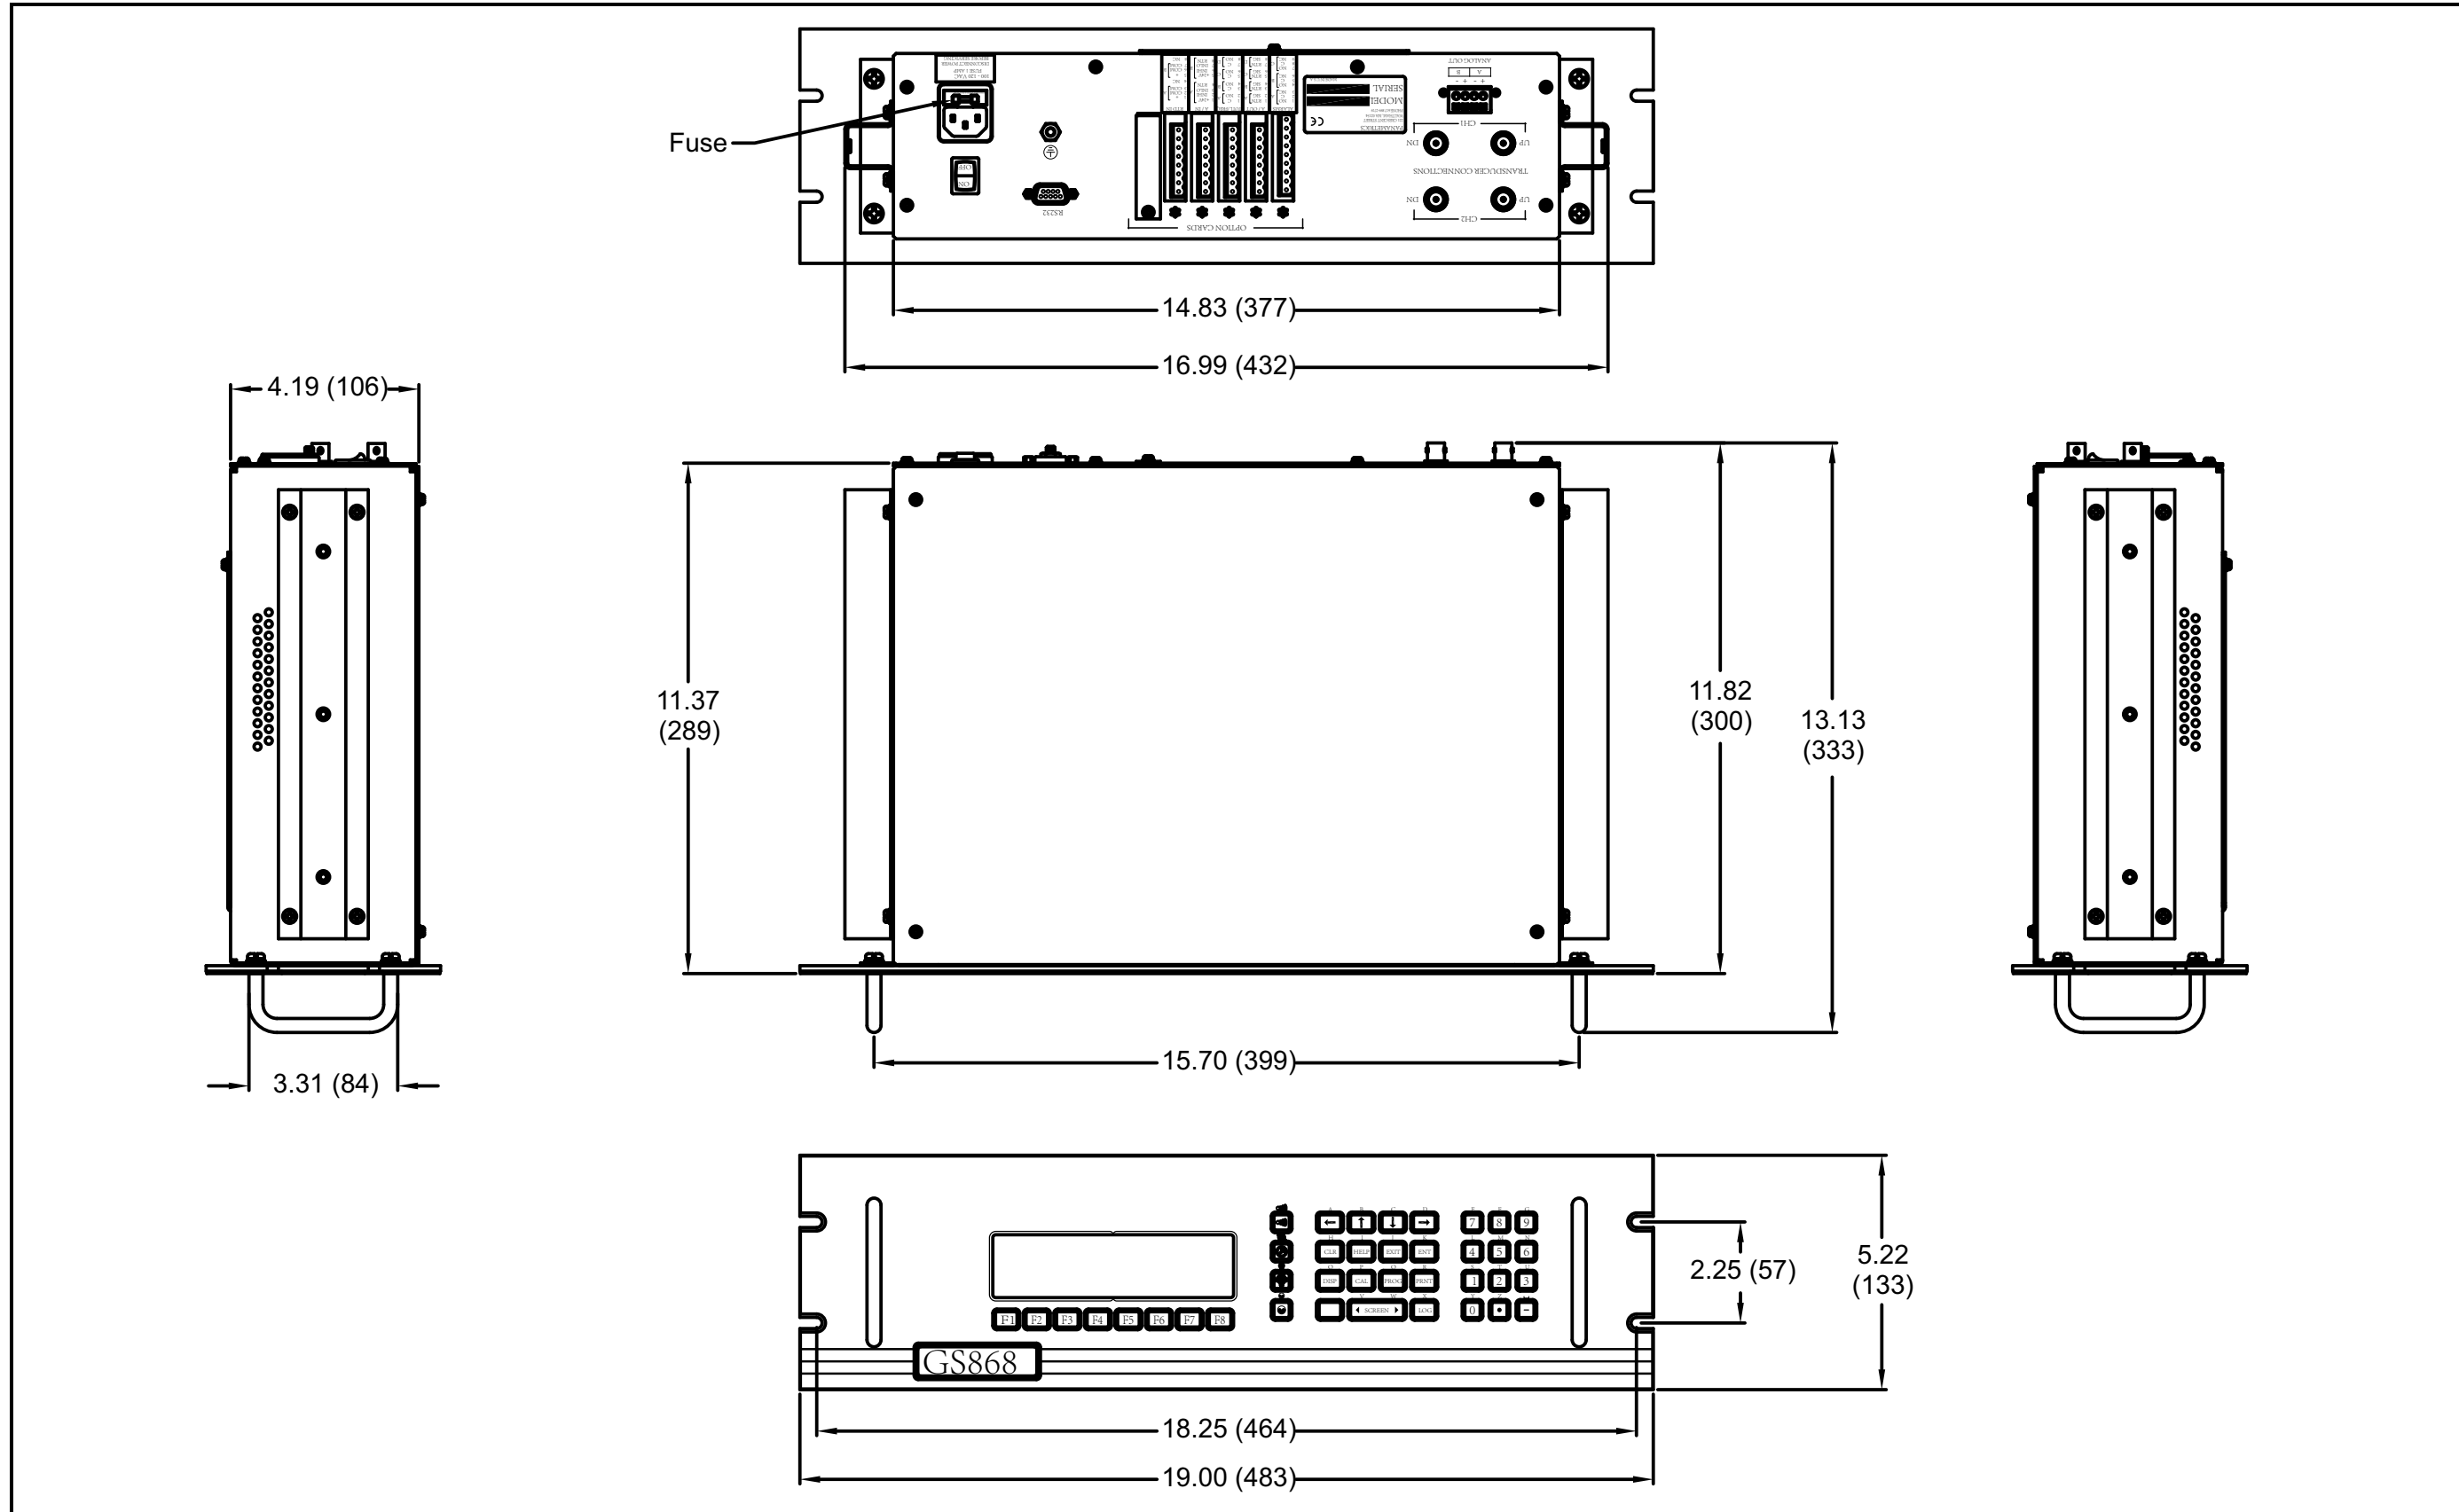
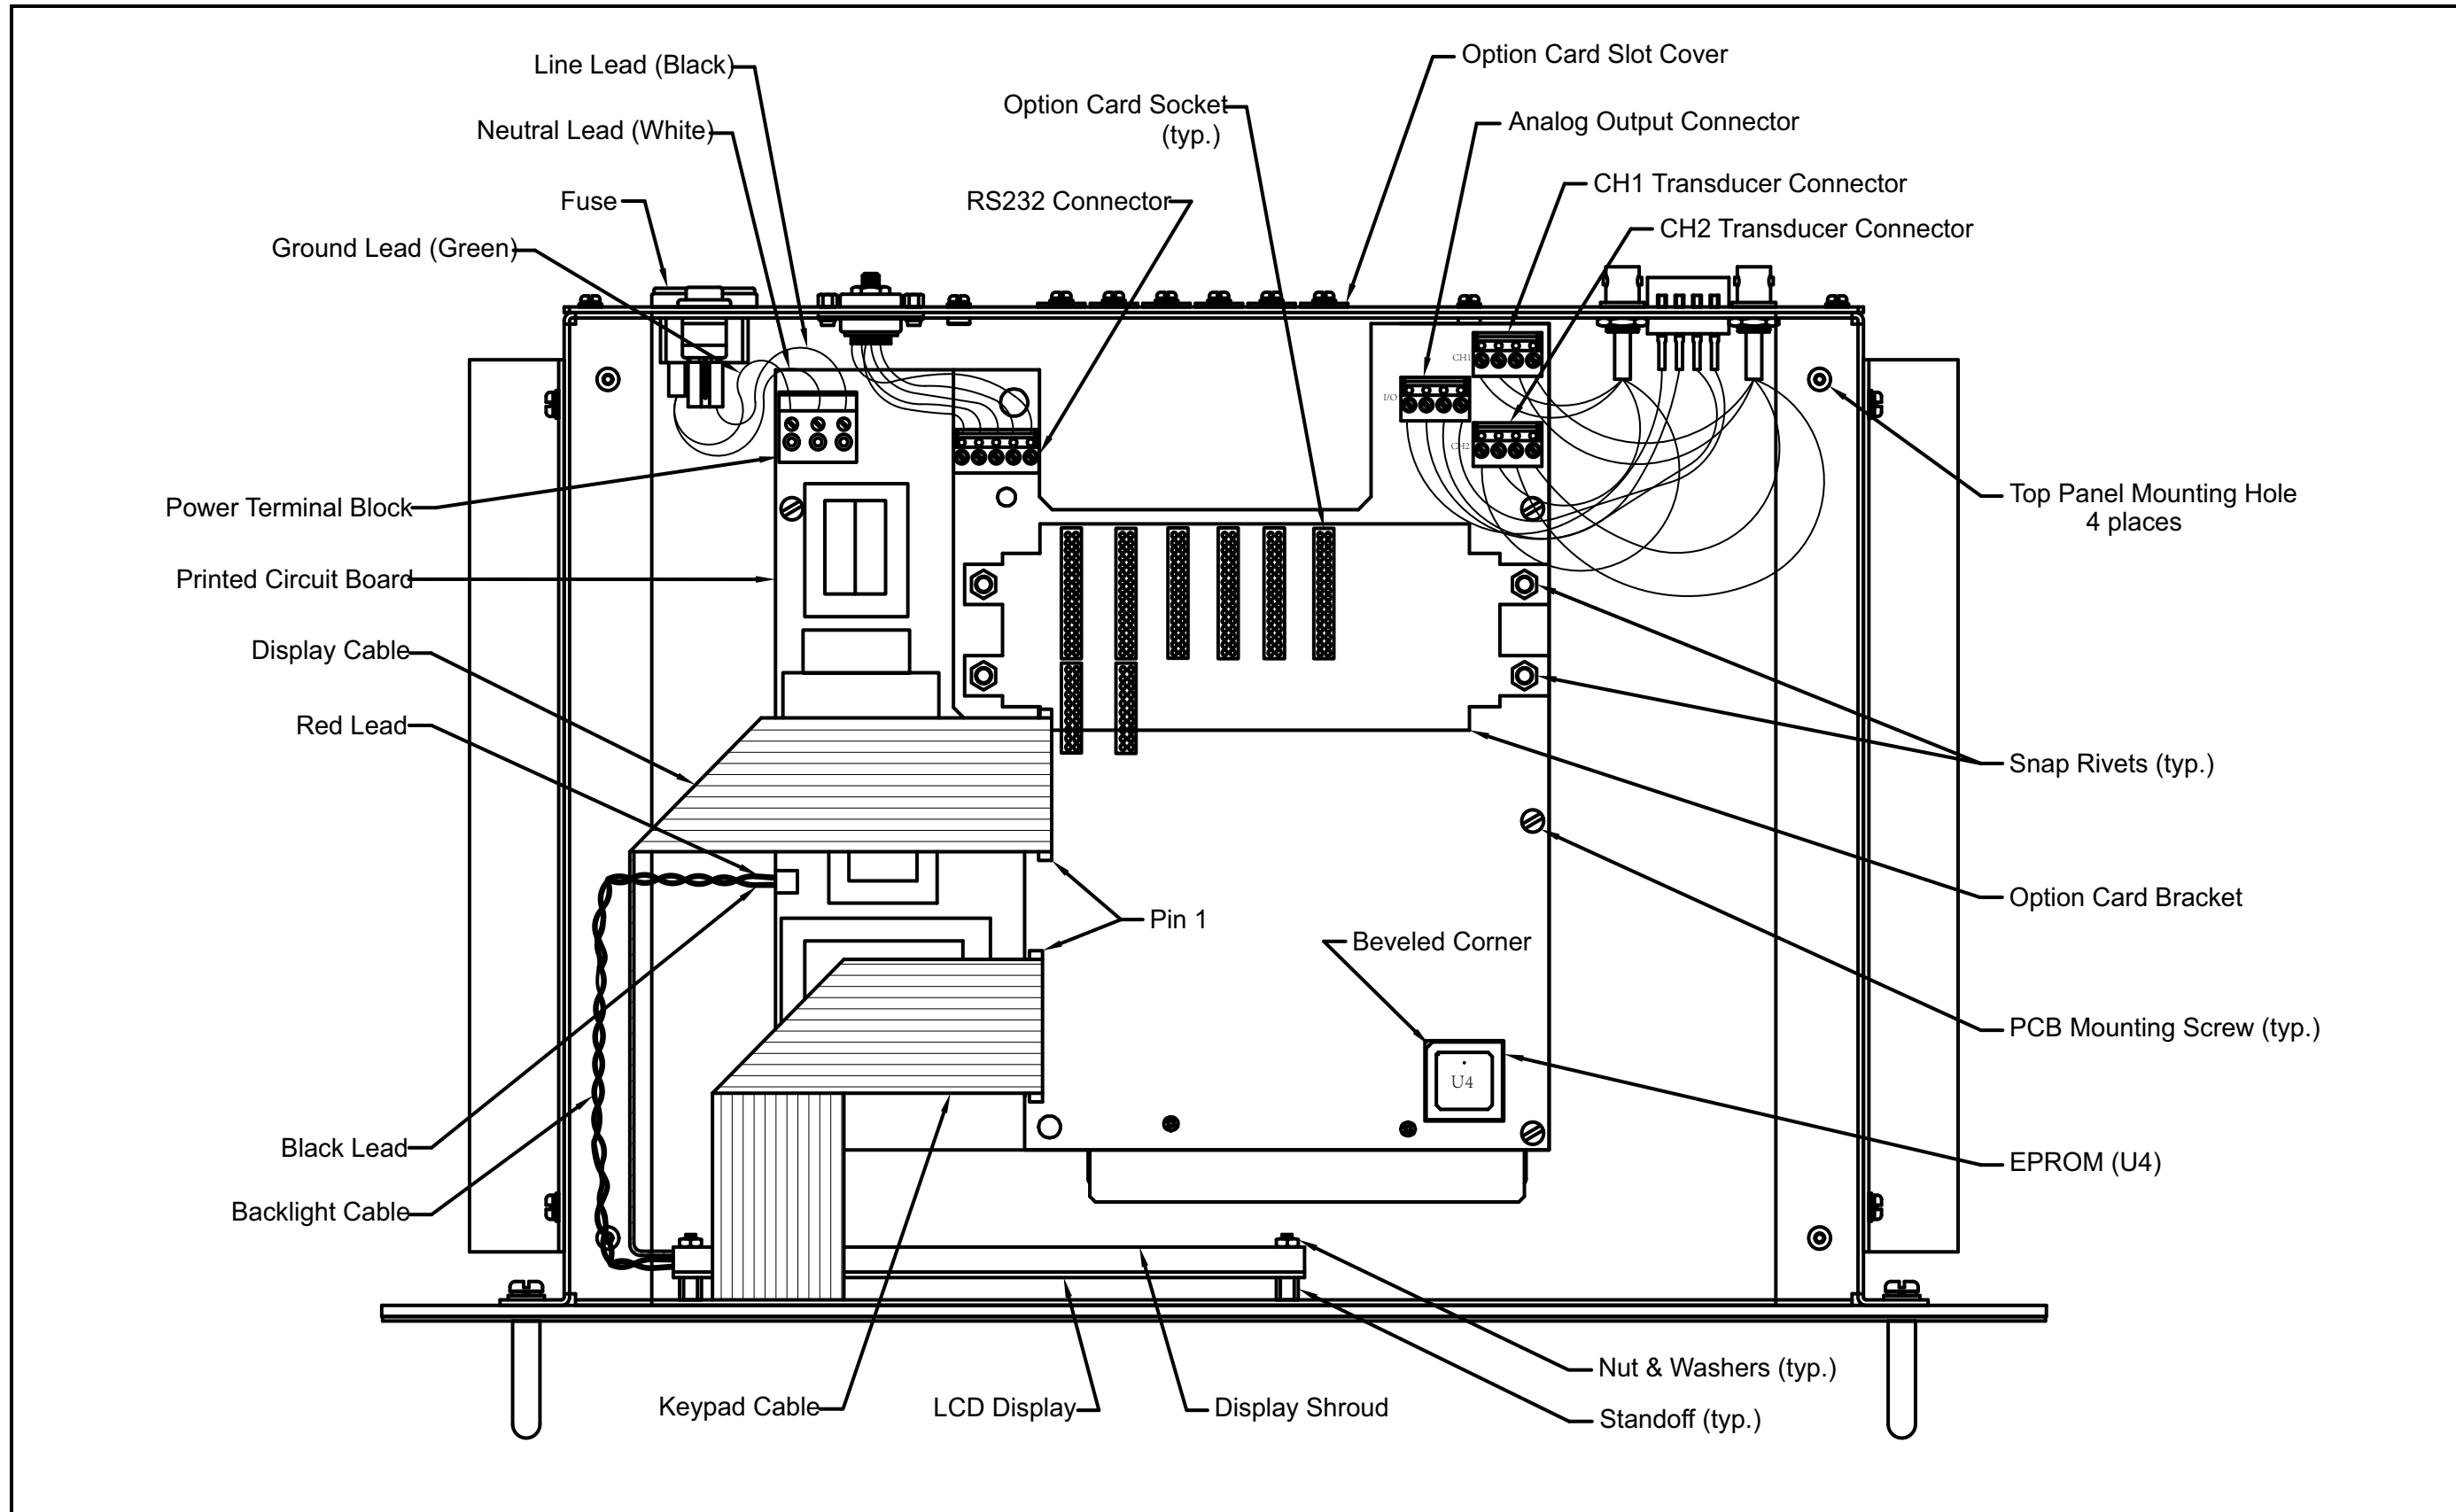

Figure 10: Model GS868 Rack Mount Enclosure Dimensions - (ref. dwg #712-1078)
Figure 11: Model GS868 Rack Mount Console Assembly - (ref. dwg #705-849)
Refer to Figure 10 on page 53 and Figure 11 on page 54 for the location of the relevant components, while completing the following procedures. If the top panel of the meter is accessible, service may be performed without removing the meter from the rack. Otherwise, disconnect all rear panel electrical connections and remove the meter from the rack before proceeding.
If it has been determined that the fuse in the Model GS868 requires replacement, refer to Figure 10 on page 53 and Figure 11 on page 54, and complete the following steps:
Refer to Figure 11 on page 54 and complete the following steps:
EPROM replacement may be required to replace a defective chip or to upgrade to a newer software version. To replace the EPROM, refer to Figure 11 on page 54 and complete the following steps:
To replace the LCD display, refer to Figure 11 on page 54 and complete the following steps:
5. Install the RS232, ANALOG OUT and TRANSDUCER connectors onto the printed circuit board at the locations indicated in Figure 11 on page 54. Make sure the marked pin #1 sides of the connectors face the right side (keypad side) of the enclosure.